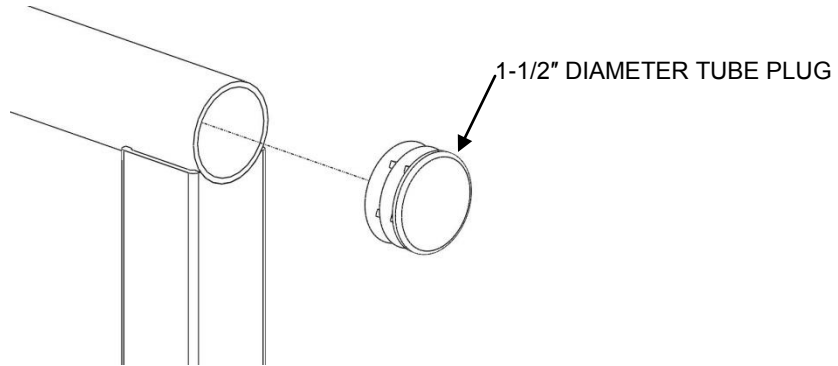

FIG. 6.27
- 6.10.1. Using the rubber mallet, tap in the provided round tube plugs into the tubing ends on the gate. (FIG. 6.27).